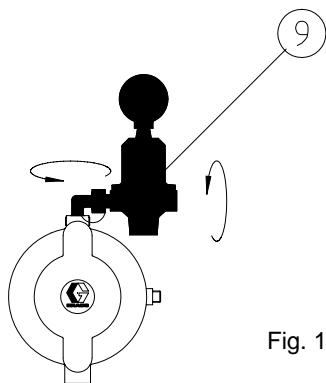

Fig. 12
The hose line ① connects the diaphragm pump with the dispensing unit. In many cases, however, the hose line is screwed to the pressure-regulating valve (Fig. 12).